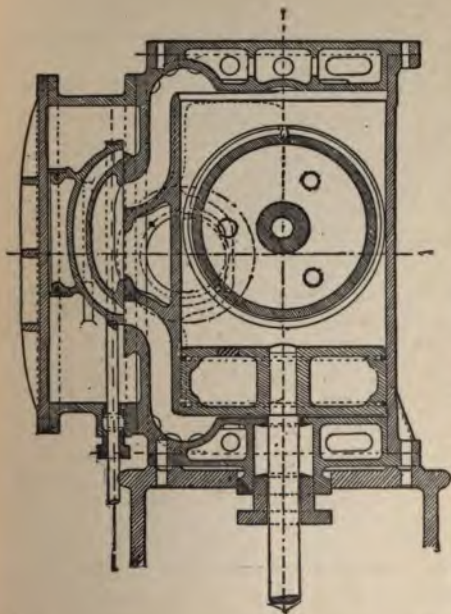

FIG. 38. CENTRAL VERTICAL LENGTHWISE SECTION, PORTER-HAMILTON ENGINE.
A. Overhung cylinder, a ribbed, hollow box-bed, of the Porter (usually called "Tangye") type, with the bottom of the guides a part of the main casting a main bearing split on its side, as shown in Fig. 43; valve seat at the side of the cylinder, and low down; a single slide valve balanced by a Margach plate, and with uniform motion, making two openings for admission; the second one by a passage behind the exhaust cavity, as shown in Fig. 38; although sometimes there is used a flat valve provided with a balance plate resting on ledges (see Fig. 40); wide hollow piston (see Fig. 38) forced on the rod, and the rod end riveted. The crosshead is purposely heavy. The overhang of the crank is very slight. The crank pin diameter is greater than its working length. There is a Kirkevaag drop hook (Fig. 41) which enables disconnection from the rocker pin without lifting the eccentric rod.